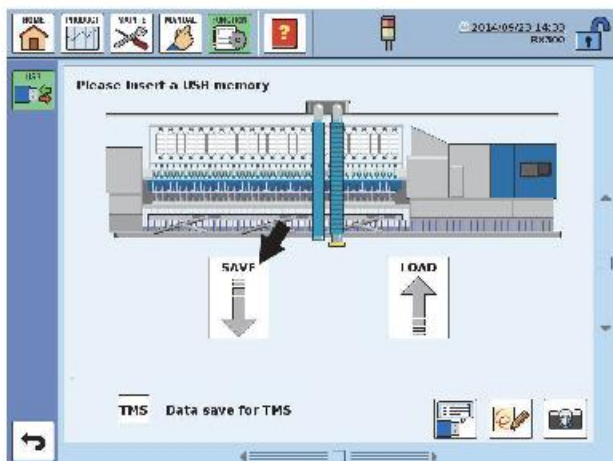

Fig. 1 USB memory screen
- (1) Insert the USB memory into the specified slot.
- (2) Touch [SAVE] on the USB memory screen (Fig. 1). The sending data selection screen appears.
- (3) On this screen, select the data to be saved onto the USB memory.